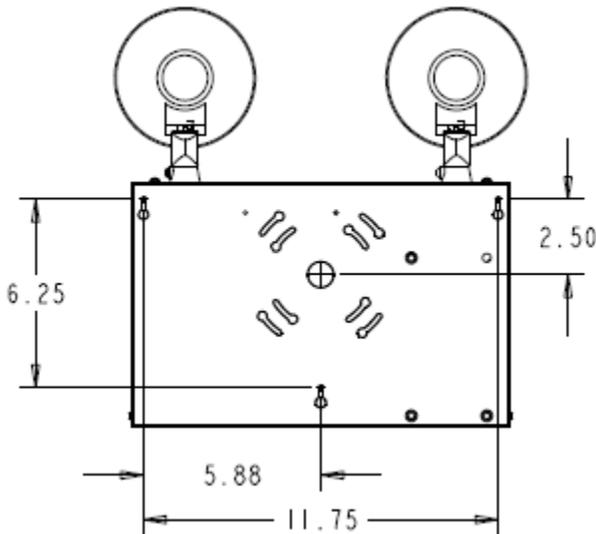

Figure 1
- 3) Additionally, three slotted vertical keyway slots (Figure 1) may be used to attach the mounting plate to independent anchor supports. Use three #8 toggle bolts (supplied by others) for securing to wallboard or hollow concrete walls. If the wiring is wall recessed, run wires through center hole of mounting plate in preparation for unit wiring.